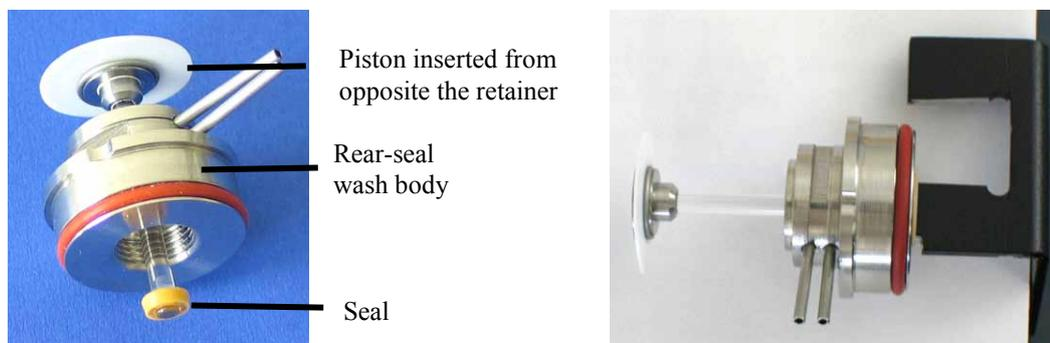

Fig. 52: Assembling the rear seal wash system
5. To remove the piston seal that is installed in the rear seal body, remove the retainer on the back of the rear seal wash body first, using the extractor tool from the accessories kit (→ Fig. 46, page 121 and Fig. 52, page 125). Then, remove the seal. Use the piston to push the piston seal out of the rear seal body.
2. Insert the piston into the rear seal wash body (from the side opposite the retainer; → Fig. 52).